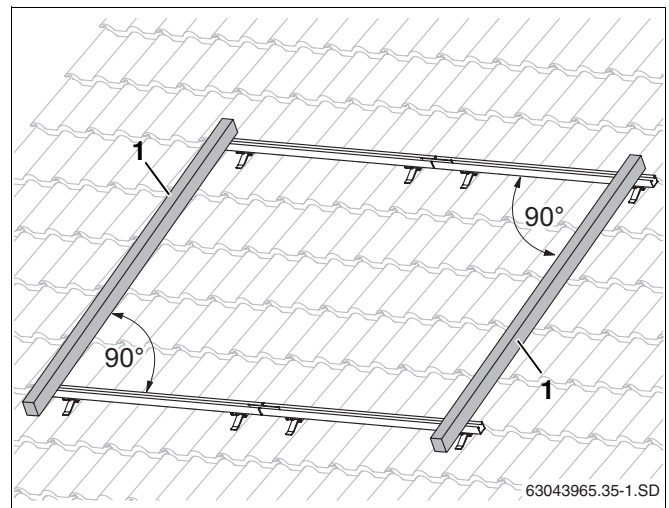

Fig. 33 Aligning the profile rails
- Align the upper and lower profile rails to the side flush with each other and level them (Fig. 33, use a spirit level)..
Measure the diagonals or place a roof batten (Fig. 33, **Item 1**), for example, at the ends of the profile rails. The angle between roof batten and profile rail must be 90°. Align the profile rails over the slotted holes.